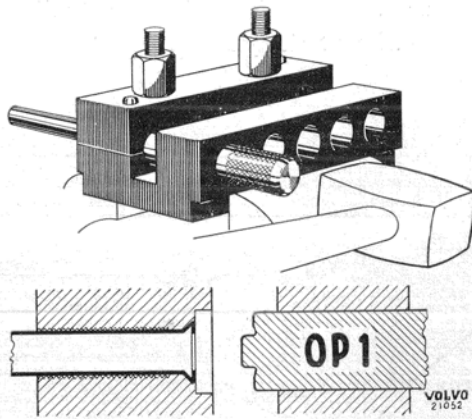

Fig. 27. Flanging brake pipe.
4. Place drift OP 1 in the tool. Knock drift with a copper mallet until it bottoms. The edge of the pipe is then flanged as shown in Fig. 27.